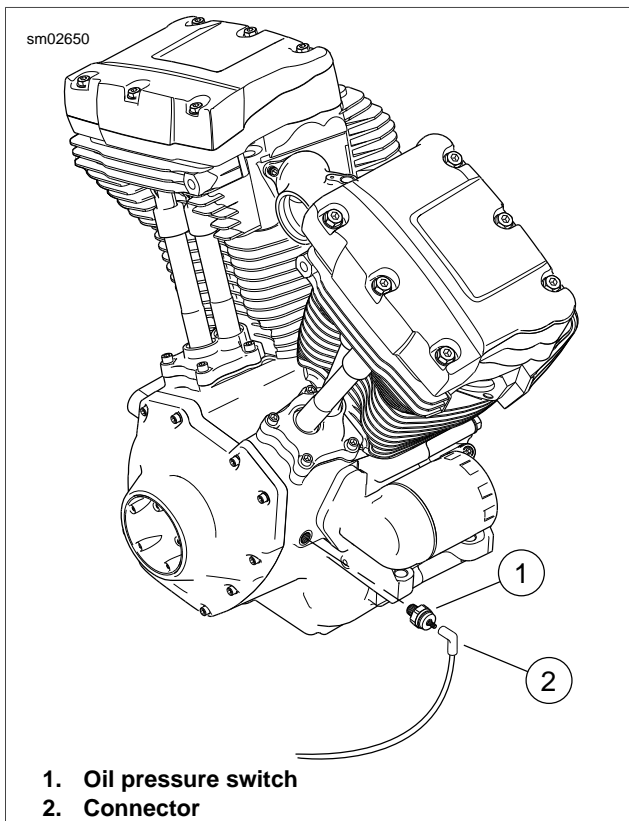

Figure 8-63. Oil Pressure Switch
See Figure 8-63. The oil pressure switch is located on the right side of the crankcase.
1. See Figure 8-63. Remove connector (2) from oil pressure switch (1).
2. See Figure 8-63. Install oil pressure switch (1) to crankcase.
4. Attach connector (2) to oil pressure switch.